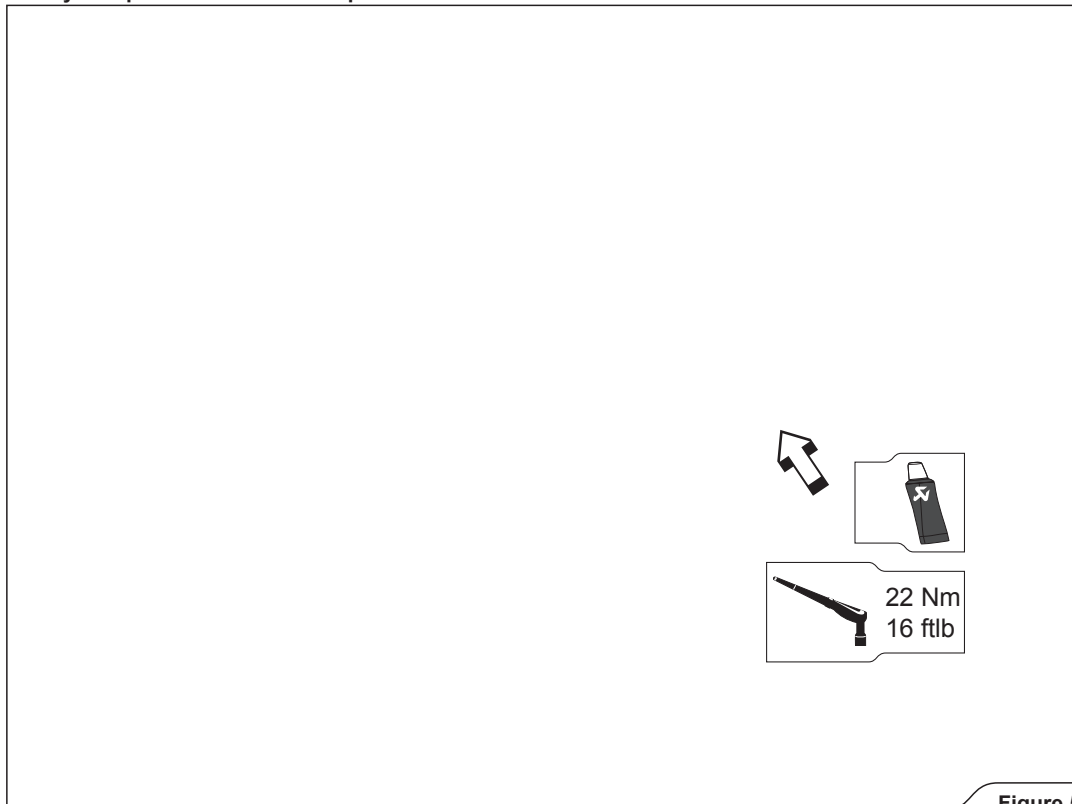

Figure 5
3. **For Low Slip-On only:** position the muffler correctly and slide it onto the outlet of the stock collector. Align the muffler in respect to the motorcycle and tighten the muffler bracket using stock bolt and alu.washer and additional Akrapovič nut and washer (**Figure 5**).